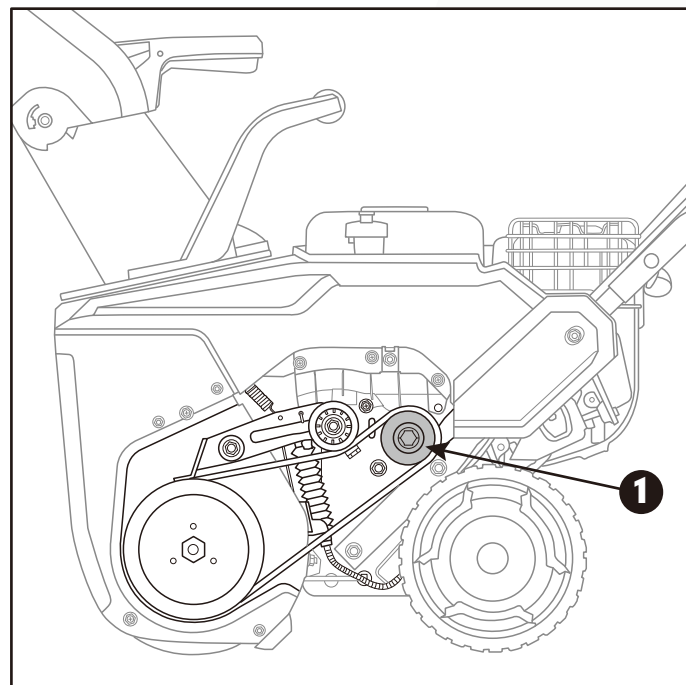

Fig.16B
5. Remove the belt around the drive pulley. (Fig.16B)